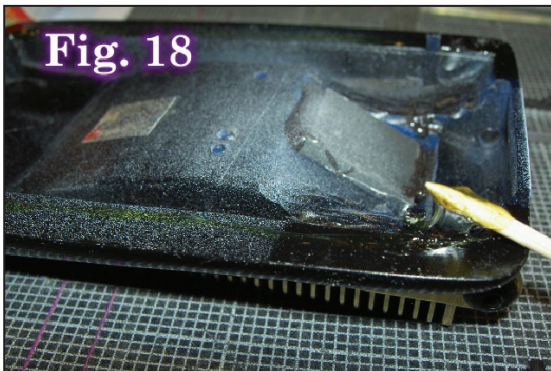
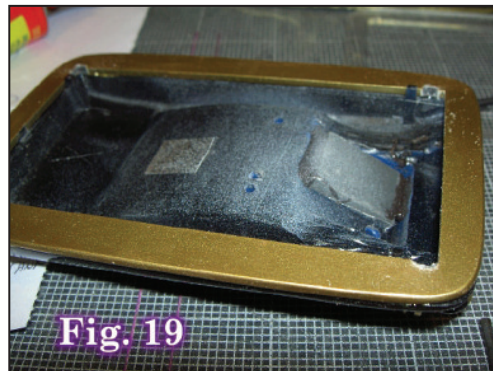

Fig. 18
Fig. 19
Step 9: Align the mid plate on the upper body and remove, noting its proper orientation. Apply a small amount of rubber cement on the upper body (Fig. 18) and glue the mid plate on (Fig. 19--painted mid plate shown). Don't let it ooze onto your finished surface! This will make it easier to do the final assembly.